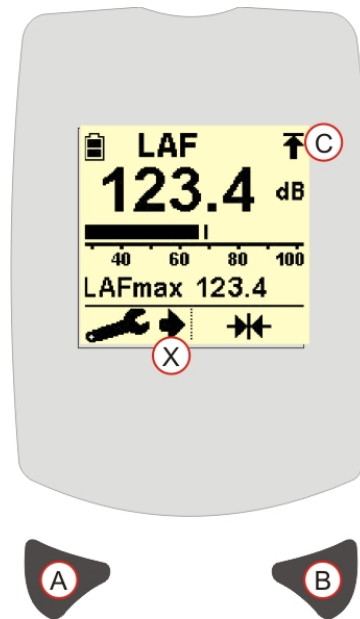

Figure 7 Instrument Settings
1. The Instrument Settings can be changed from the Measurement screen (Refer to Figure 7).
2. Press and release the Left key (A). An Arrow (X) will be displayed beside the Settings key indicating the Settings Menu has been enabled. Note that the reset symbol  will be replaced by the relevant settings to be changed as described below.
3. Press and release the Left key (A) repeatedly to cycle through the Settings screens. Note that the screens displayed will be dependent on which CEL-200 series model purchased.
4. Press Right key (B) to make changes to each setting as described below in sections A - G.
Care should be taken to select the correct measurement range depending on the noise climate being measured. Make sure the noise being measured is within the range selected. If the Over Range indicator () is displayed the incorrect range has been selected. (Refer to Figure 7 [C]). If the noise level is lower than the selected measurement range ‘--.dB’ will be displayed.